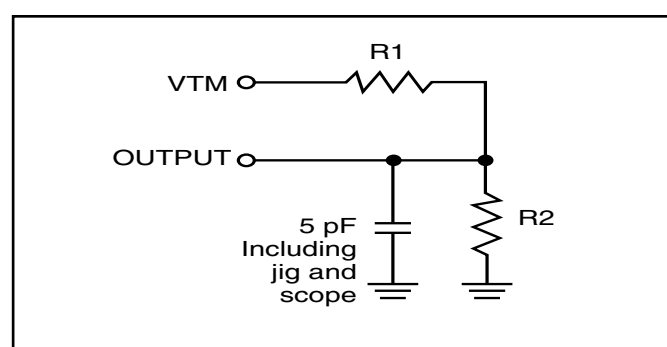

Figure 2.
2. Tested with the load in Figure 2. Transition is measured  $\pm 500$  mV from steady-state voltage.